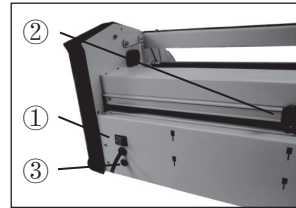

Figure 2
Power Switch (1) - Located on the rear of the machine. "I" (on) "0" (off). (Fig. 2)
Cross Cutter (2) - Used to cut off the laminated web. (Fig. 2)
1. Turn the laminator ON (I) located on the rear of the machine. (Fig. 2)